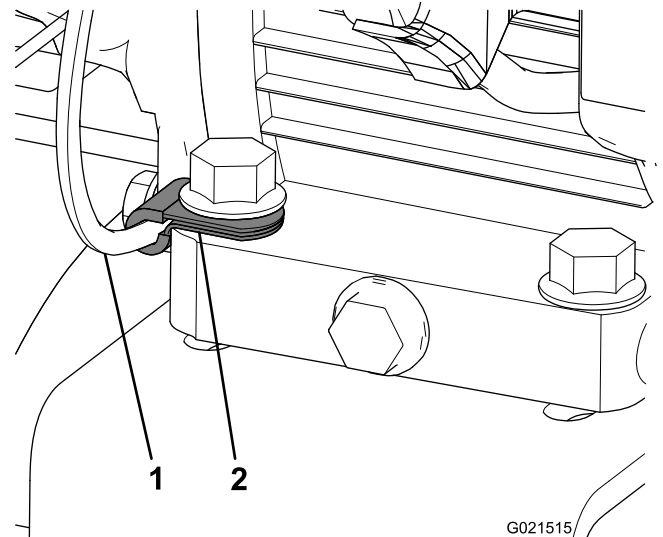

Figure 6
5. Attach the new clip to the throttle cable and bolt it to the engine conversion mounting bracket using the front right bolt (Figure 6).